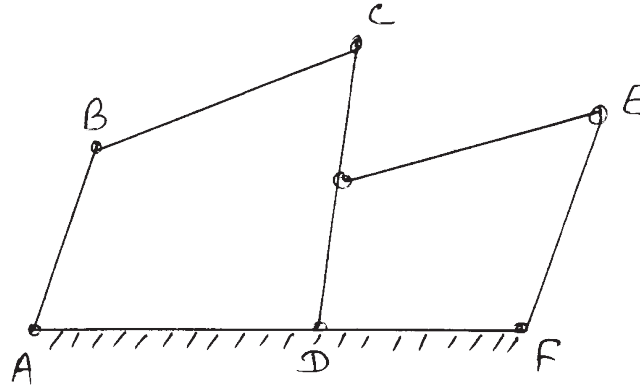

Fig. No. 1
- a) Find number of degree of freedom for mechanism shown in Figure No. 1.